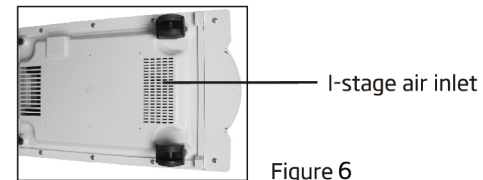

Figure 6
- ▶ Clean the I-stage air inlet once a month. (Figure6)